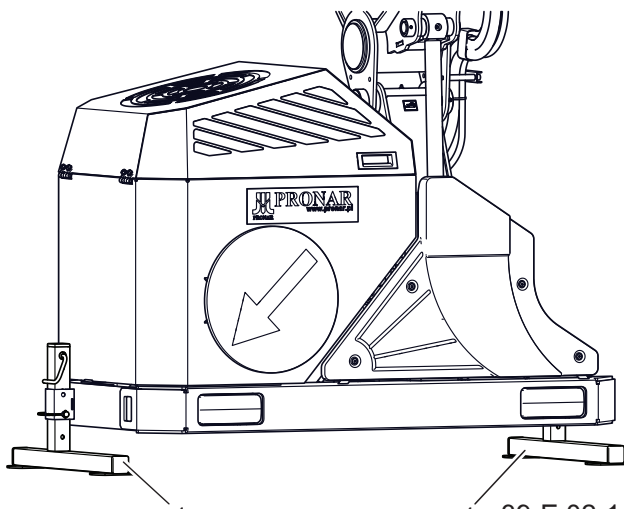

Figure 1.2 Support feet of multifunction arm during loading.
During loading and transportation the multifunction arm should stand on support feet (1) (FIGURE 1.2) extended and locked on both sides of the arm at the same height.